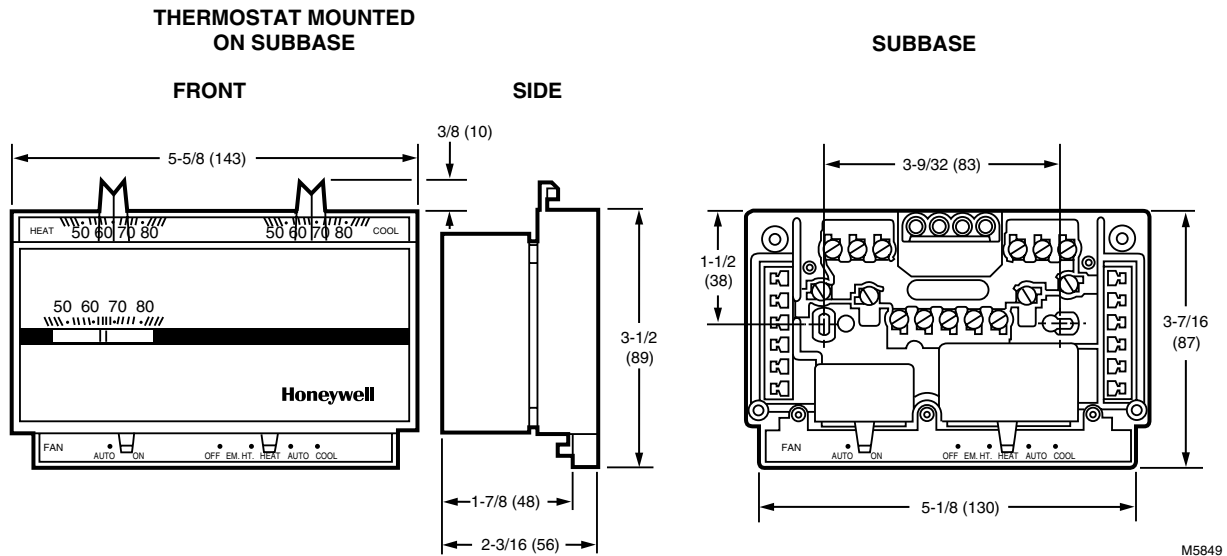

Fig. 1. T874 Thermostat and Q674 Subbase dimensions in in. (mm).
Dimensions: See Fig. 1.
Dimensions in in. (mm): 3-1/2 (89)height; 5-5/8 (143) width; 5/16 (8) depth. See Fig. 1.